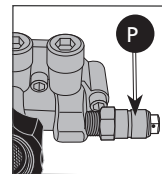

Figure 18
**Thermal Relief Valve (Figure 18):** When the temperature inside the pump rises too high, this valve will open and release a gush of water in an effort to lower the temperature inside the pump. The valve will then close.